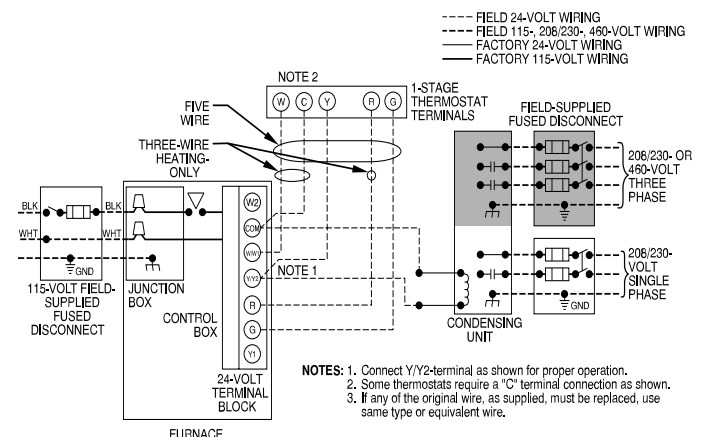

Fig. 33 – Typical Field Wiring Diagram
See Fig. 33 for field wiring diagram showing typical field 115V wiring. Check all factory and field electrical connections for tightness.
6. Connect power cord power and neutral leads to furnace power leads as shown in Fig. 33.
1. Install J-Box mounting bracket to inside of furnace casing. See Fig. 33.
5. Connect field power and neutral leads to furnace power leads. as shown in Fig. 33.
Make field 24V connections at the 24V terminal strip. See Fig. 38. Connect terminal Y/Y2 as shown in Fig. 33 for proper cooling operation. Use only AWG No. 18, color-coded, copper thermostat wire.